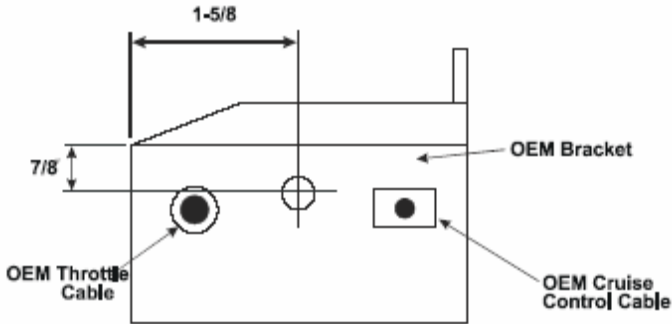

Figure 4.3
- ☐ Drill a 3/8 inch hole in the rear of the OEM throttle bracket (Figure 4.3).